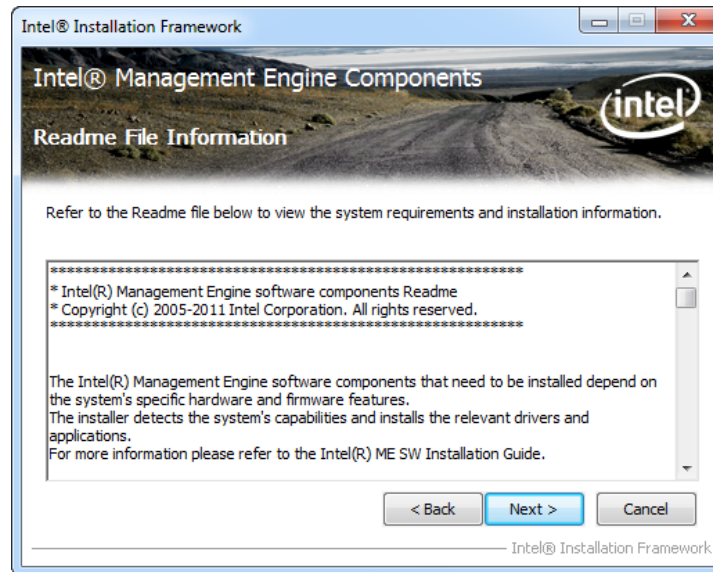

Figure 8-24: Intel® ME Driver Read Me File
Step 9: The **Read Me** file in **Figure 8-24** appears.